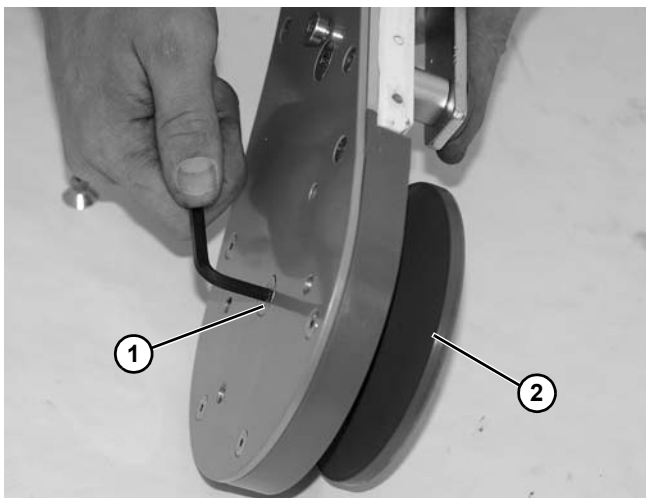

Figure 123
4. Remove flat head screw (Figure 123, item 1) and remove idler pulley (Figure 123, item 2) from idler head plate assembly.